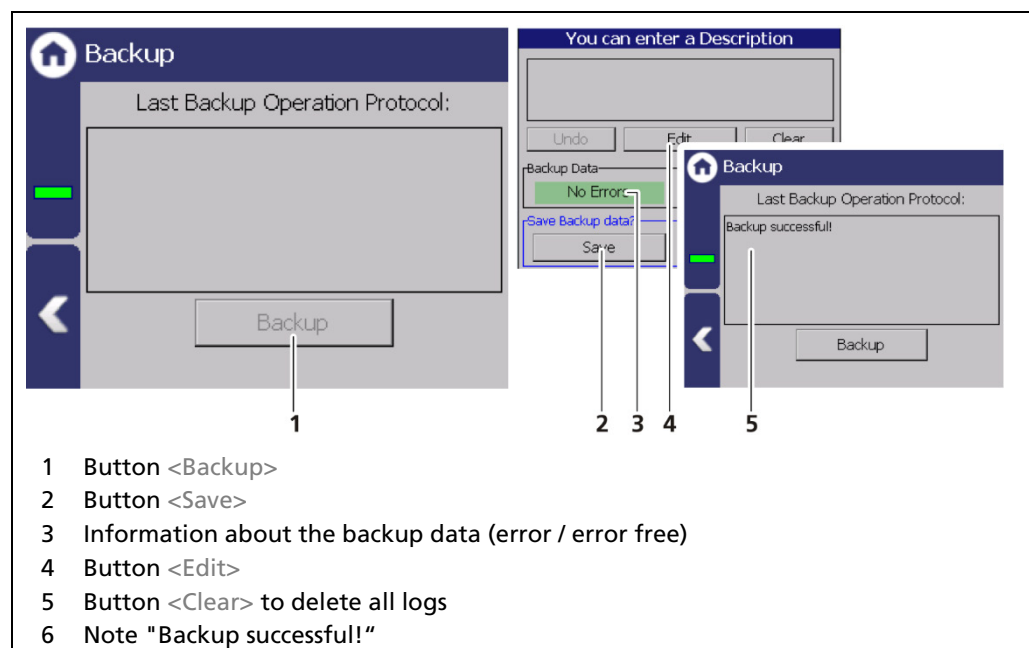

Fig. 132 Backup
2. The USB storage device is recognized by the system after a few seconds and the button <Backup> (Fig. 132, item 1) can be clicked.
3. Click on the button <Backup> (Fig. 132, item 1).
- ▶ The message "Error free" (Fig. 132, item 3) appears in the field "Backup data" for error-free backup files.
- ▶ The message "Backup successful" appears after a successful copy process (Fig. 132, item 6).